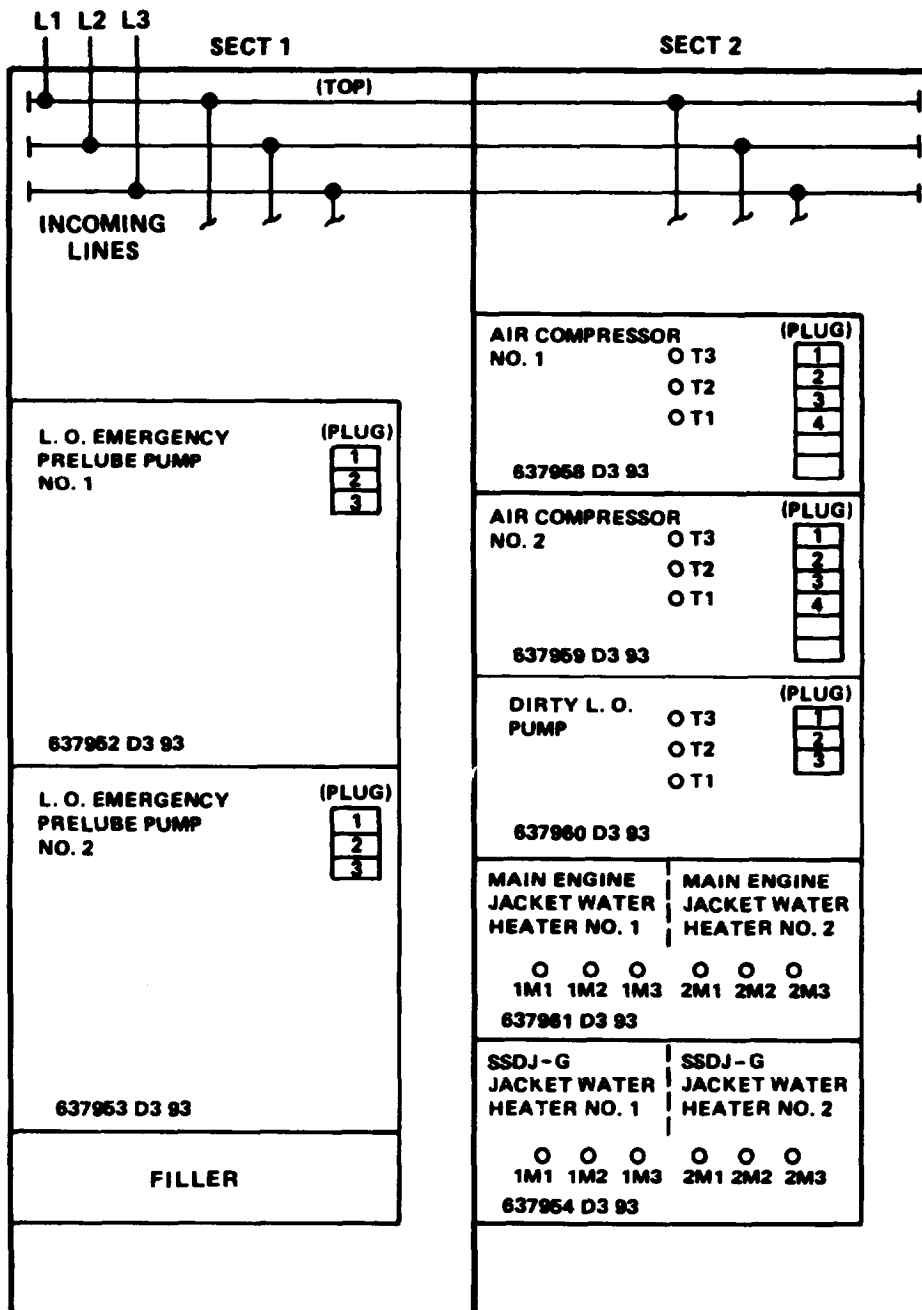

FIGURE 2-191. Motor Control Center Auxiliary Machinery Room Vent No. 1.
**2-221. Replace/Repair Motor Control Center, Auxiliary Machinery Vent Room No. 1. (FIGURE 2-191)**